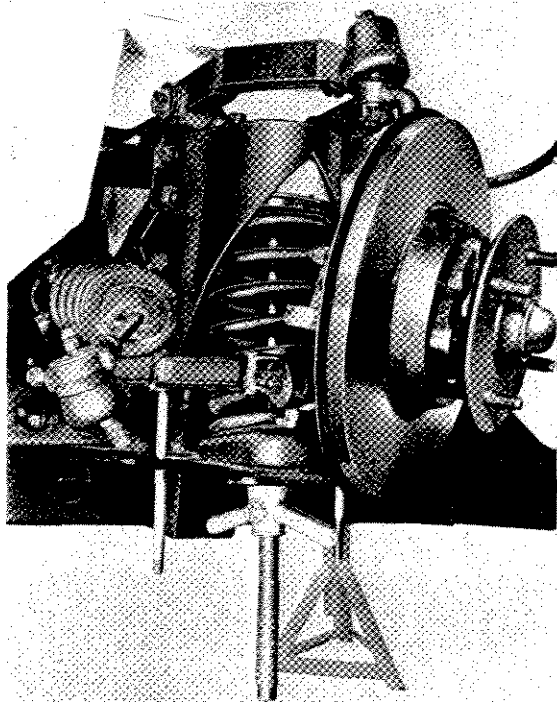

Fig. 8. Releasing the front spring
Compress the spring by tightening the wing nut until the lower wishbone arms are horizontal. Remove the bolts (62) and fit two $\frac{3}{8}$ " \times 6" (9.5 mm. \times 152 mm.) guide rods as shown on Fig. 8.